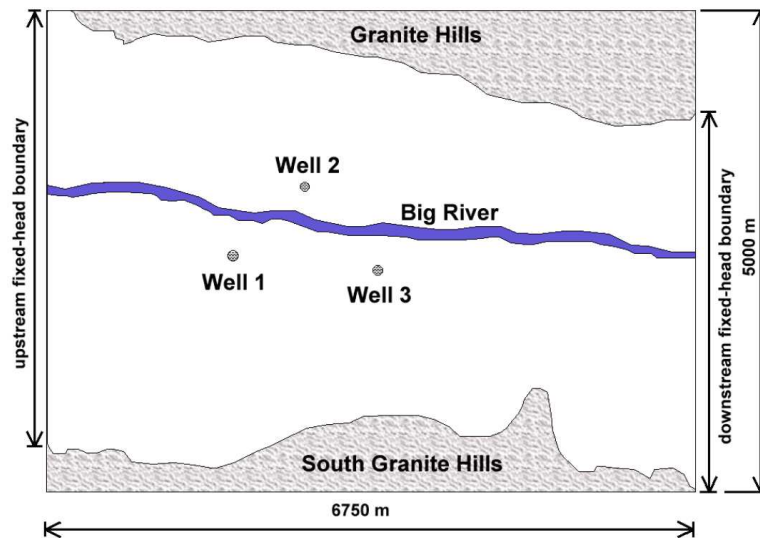

Figure 4.1: Configuration of the model
A river flows through a valley, which is bounded to the north and south by impermeable granite intrusions (figure 4.1). The hydraulic heads in the valley at the upstream and downstream model boundaries are known. The river forms part of a phreatic aquifer, which overlies a confined aquifer of a variable thickness. A silty layer with a thickness of 0.5m separates the two aquifers. A well field consisting of 3 pumping wells is to be installed, which will be abstracting groundwater at a proposed rate of $Q = 500 \text{ m}^3/\text{day}$ from the confined aquifer. The question is how that well field will affect the discharge of the river, which provides water to a valuable ecosystem downstream.
- Create a new model in PMWIN and lay out the grid. Use 2 model layers (each representing a single aquifer), 20 rows and 27 columns. You can find the model extent from figure 4.1.